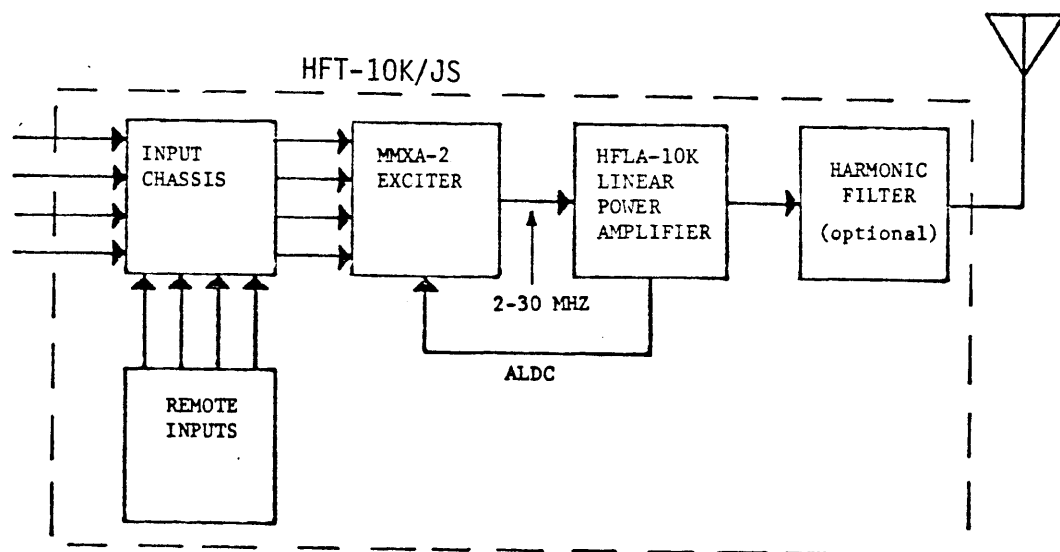

Figure 4-1. Functional Block Diagram
Figure 4-1 is an overall block diagram of the HFT-10K which consists of an MMX-2B Multi-Mode Exciter driving an HFL-10K Linear Power Amplifier. The MMX-2B provides at least 100 milliwatts of r-f power to the HFL-10K within the operating range of 2 to 30 MHz in any one of the following modes: AM, AME (carrier reinserted), SSB, ISB, CW, FSK, or FAX. The HFL-10K provides linear amplification of the r-f output and provides 10 kilowatt PEP within the operating frequency range of the transmitter. The transmitter r-f is applied to a transmitting antenna which matches the 50 ohm output impedance of the HFT-10K/JS.
- a. Overall block diagram (Section 4; Figure 4-1)